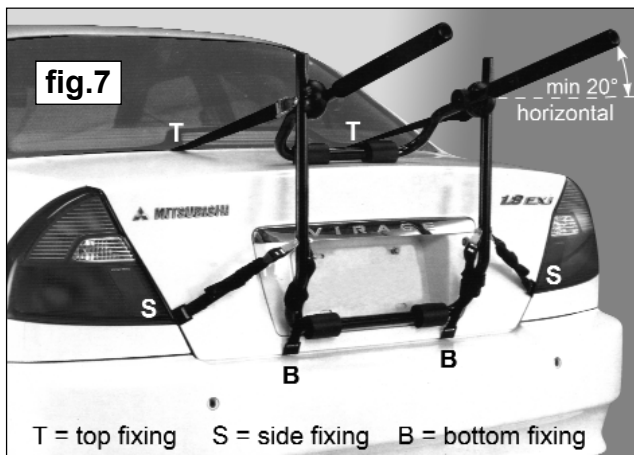
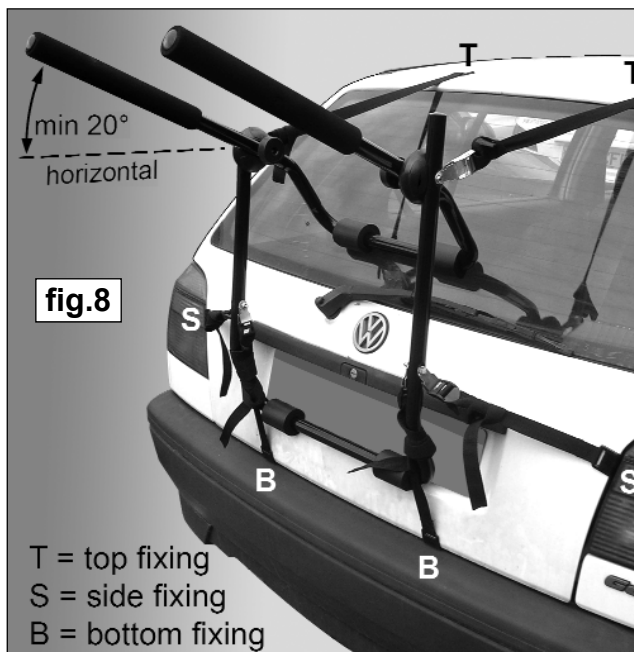

fig.7
fig.8
- 3.9 The padded support legs should be angled upwards by at least 20° from the horizontal when the frame is attached to the vehicle. The actual angle between the two parts of the frame will vary depending on whether the car is a hatchback, an estate or a saloon with a boot. See figs.7 & 8.
4.1.1 Position the carrier on the rear of your vehicle and adjust the carrier arms as shown in fig.7 and fig.8.
4.2.1. To fix upper straps to vehicle, we recommend that you hook the straps onto the top edge of the boot lid, see fig.7(T) and adjust the length of the the straps to allow the carrier to hang in place at the required height.
4.2.2. Attach the bottom straps to the lower edge of the boot lid, or other adequate securing point on the vehicle bodywork. Equally tighten the straps, see fig.7(B)
4.2.3. Attach the side straps to a suitable position on either side of the boot lid and equally tighten the straps. See fig.7(S).
4.3.1. To fix upper straps to vehicle, we recommend that you hook the straps onto the top edge of the tailgate, see fig.8(T) and adjust the length of the the straps to allow the carrier to hang in place at the required height.
4.3.2. Attach the bottom straps to the lower edge of the tailgate. Equally tighten the straps, see fig.8(B)
4.3.3. Attach the side straps to a suitable position on either side of the rear hatch or door and equally tighten the straps. See fig.8(S).